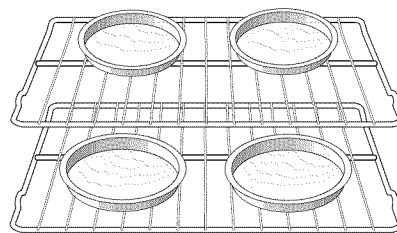
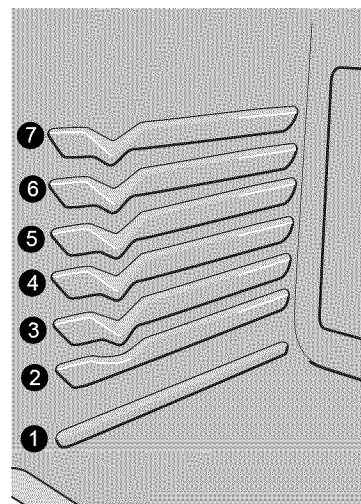

Figure 26: Baking on multiple levels
Figure 27: Oven rack positions
- For best results when baking cakes or cookies using two oven racks, place racks in positions 3 and 6 (Figure 27) and place pans as shown in Figure 26.